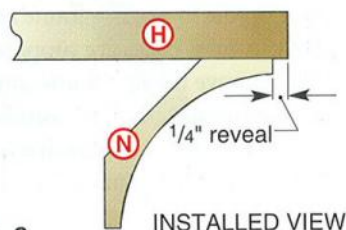

Fig. 8
1 JOINT THEN PLANE STOCK FOR THE COVE to 1" thick. Rip blanks $3\frac{7}{8}$ " wide, crosscutting the cove front (M) 50" long, and two blanks to 20" for both the cove sides (N). It's a good idea to also cut a test piece about 16" long. Always mill the test piece first to prove your setups. Also, some woodworkers find it helpful to draw the molding profile (shown in **Figure 8**) on the end of the workpiece to ensure accurate setups, as when determining where the cove cut ends when the blade is raised to final height for fence location.
4 CUT A $\frac{1}{16}$ " DEEP COVE as indicated in **Figure 8**. Tilt your table saw blade to 45° , and with the cove facing the table, make angled cuts along both edges of the blanks as shown in **Photo G**.
5 CUT FILLETS ALONG BOTH EDGES OF THE COVE, with the concave face up, as shown in **Photo H**. Referring to **Figure 8**, you'll see that the fillet is $\frac{1}{4}$ " wide and cut at a 45° angle.
8 MITERCUT THE LEFT FRONT CORNER OF THE COVE FRONT (N). Now, cut the miter on the mating cove side (O). Use these two pieces to match the corner joint, and clamp the long piece of molding in place, as shown in **Photo K**. Also refer to the installed view on **Figure 8** to see the 1/4" reveal